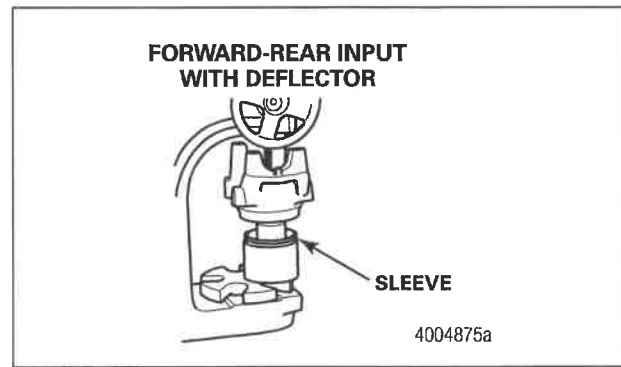

Figure 8
- Apply a light coat of axle oil to the yoke seal journal. Position the sleeve into the forward-rear axle input yoke sleeve driver. Do not touch the greased areas of the sleeve. The sleeve must be kept clean prior to assembly into the seal. Use an arbor press and the appropriate driver to install the sleeve into the yoke. Verify that the sleeve is fully-seated in the yoke. Figure 8.